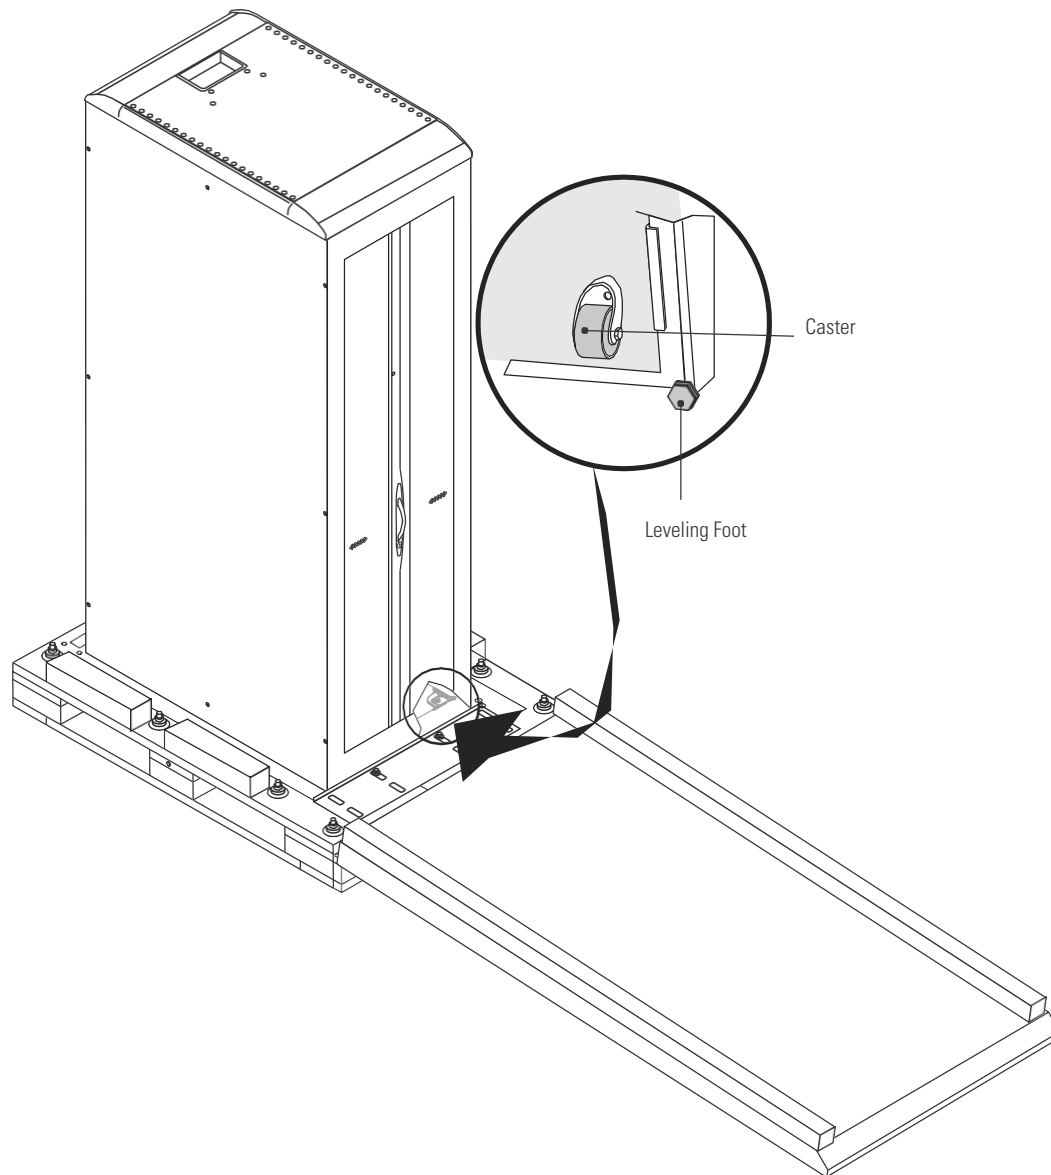

Figure 9. Locating the Leveling Feet
4. If the leveling feet are not fully retracted, turn the leveling feet clockwise until they are retracted (see Figure 9).